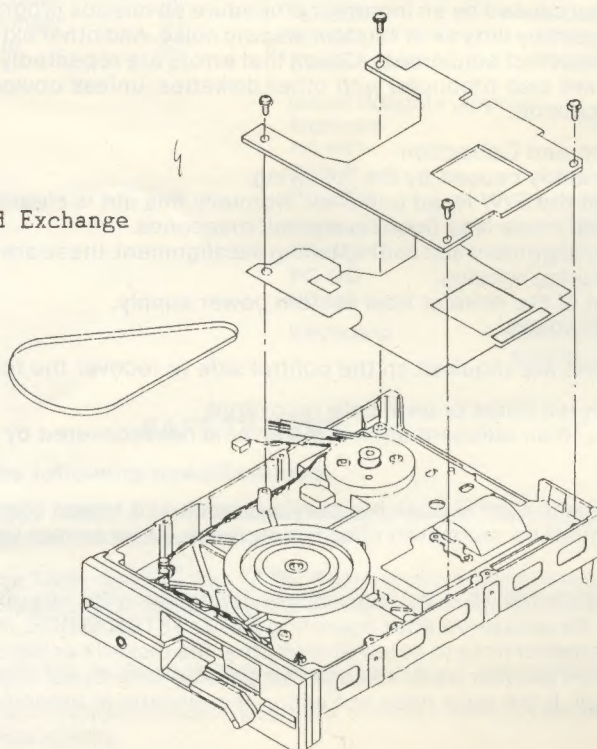

Fig. 4-1 Printed Circuit Board Exchange
4-1 Printed Circuit Board Exchange (See Fig. 4-1)
- Remove the drive belt, stretched between the spindle pulley and the DC motor pulley by rotating the spindle pulley as the direction shown in Fig. 4-1. Be careful not to touch the inner surface of the drive belt and the side of the spindle pulley and DC motor pulley.